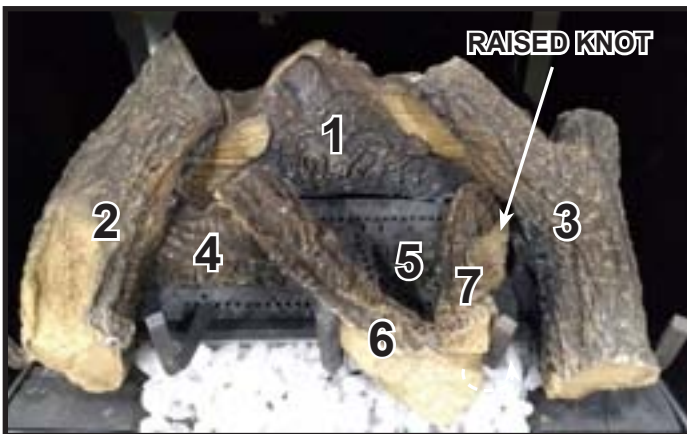

Figure 13
**Log #7 (SRV2165-707):** Place back (unnotched) end of Log #7 on the flat area on the top of Log #5. Log #7 must be pulled tight to the locating notch. Pivot the front (notched) end of Log #7 to the right until the notch of Log #7 contacts the grate tine located 4th from the left as shown in Figure 13.